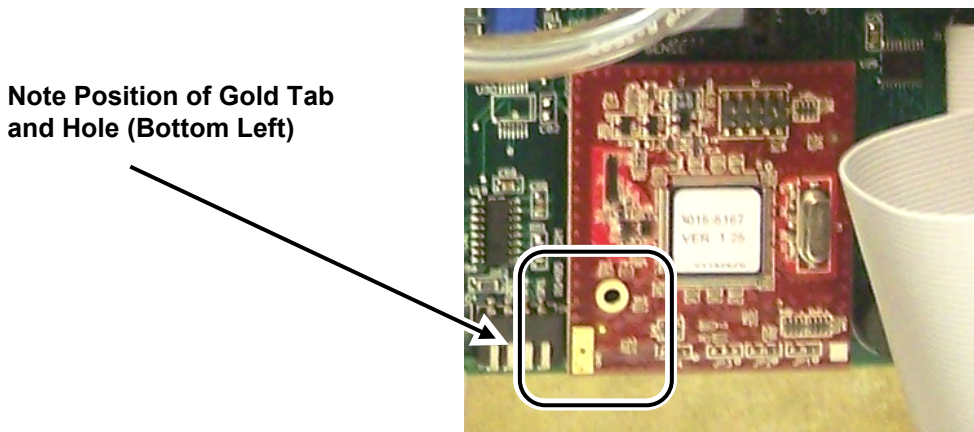

Figure 2. Orientation of Microprocessor Module
- f. Note the orientation of the module, specifically the gold tab and hole oriented on the bottom left of the board. Refer to Figure 2.
- Orient the new microprocessor so the gold tab and hole are at the bottom left corner (refer to Figure 2).
- c. Orient the new microprocessor so the gold tab and hole are at the bottom left corner (refer to Figure 2).